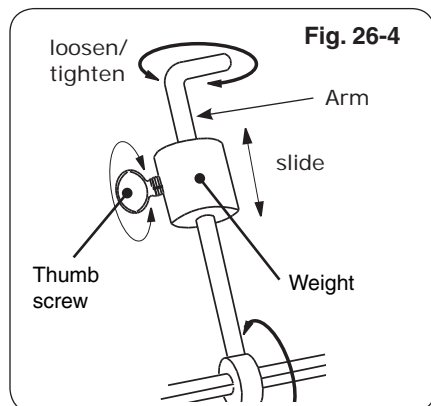
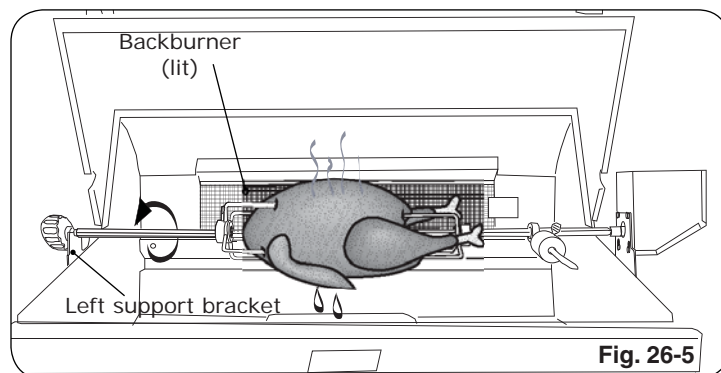

Fig. 26-4
Fig. 26-5
9. Slide the counterbalance weight up or down the arm until the rod rotates most evenly then tighten thumb screw (Fig. 26-4 and Fig. 26-5).